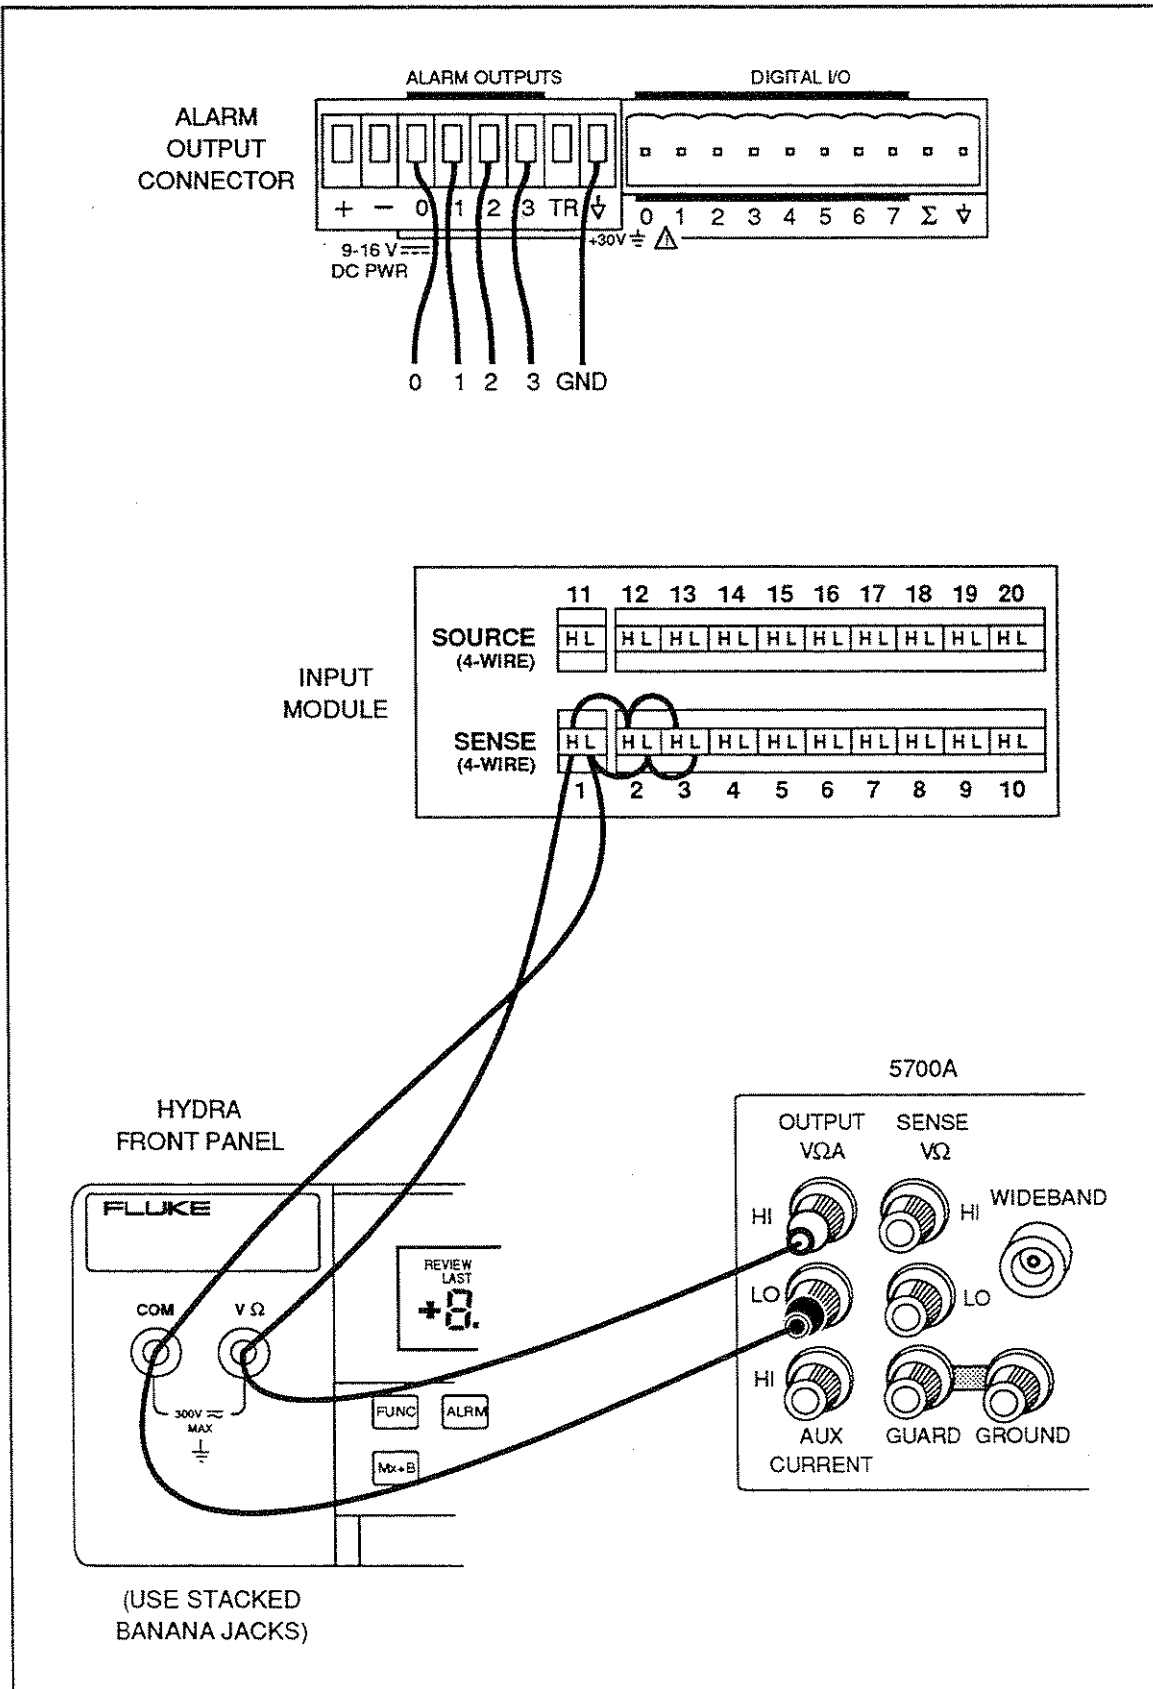

Figure 6-4. Dedicated Alarms Output Test
3. Remove the Input Module from the rear of Hydra. Open the Input Module and jumper the H (high) terminal of channels 1, 2, and 3 together. Connect a test lead to the H of channel 1. Also jumper the L (low) terminals of channel 1, 2, and 3 together. Connect a second test lead to the L of channel 1. Install the Input Module back into Hydra. Refer to Figure 6-4.